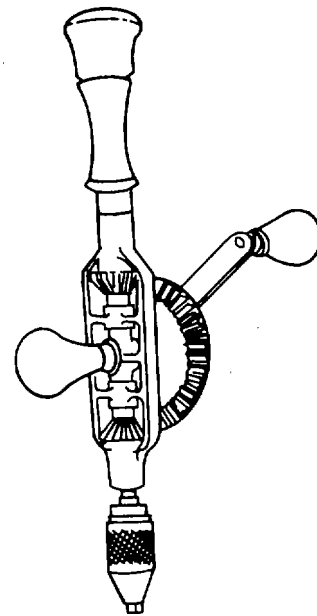

Figure 4-81. Hand Drill
- (2) *Hand drill.* The hand drill, shown in figure 4-81, has a handle to provide pressure by hand. This drill is used to drill holes in wood and sheet metal, and